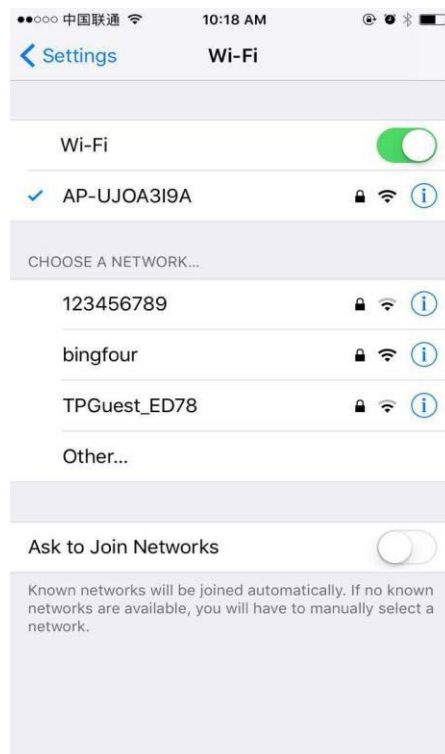

Figure 6
1. Turn on Wi-Fi on the phone, and then find Wi-Fi module hotspot (AP + 8-bit serial number) and connect it (The Wi-Fi module password is 00000000 by default), as shown in Figure 6.